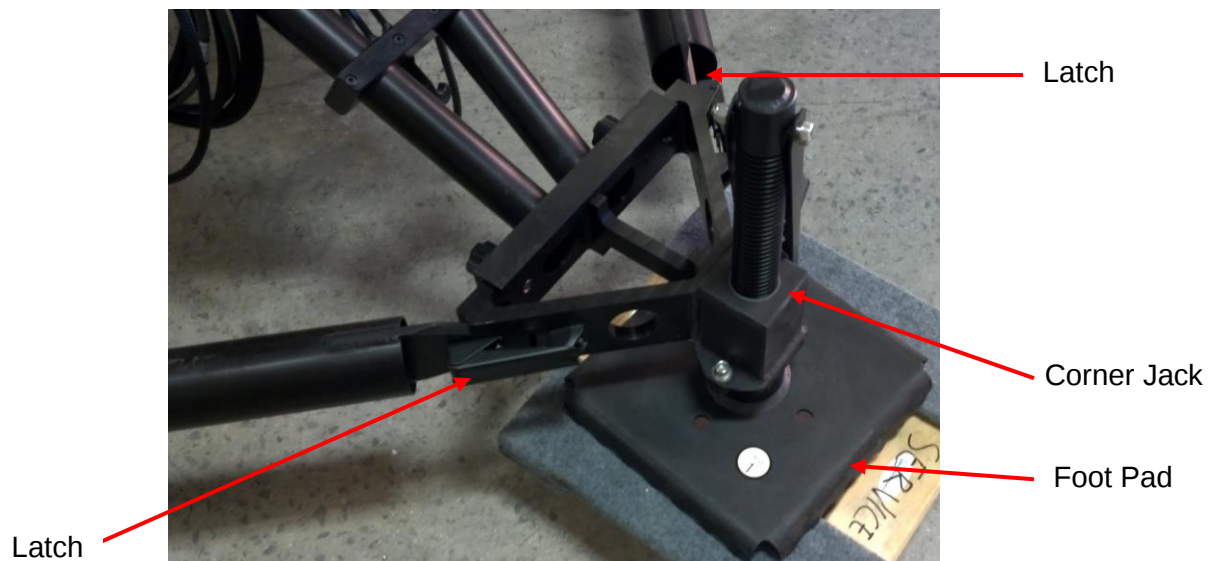

Figure 7. Quad-pod Corner Jack Assembly
5. Assemble corner jacks and horizontal tubes per Figure 7.
6. Use the latches to attach the corner jacks to one another as shown in Figure 7.